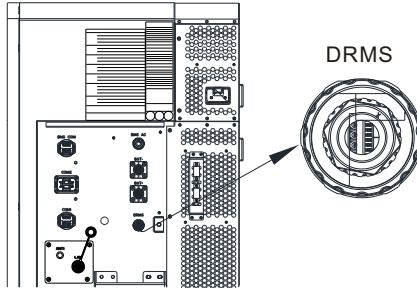

Fig 6.15 DRMS port
3. After the cable connection, reinstall the dustproof cover. The position of the DRMS port is shown in Fig 6.15 below.